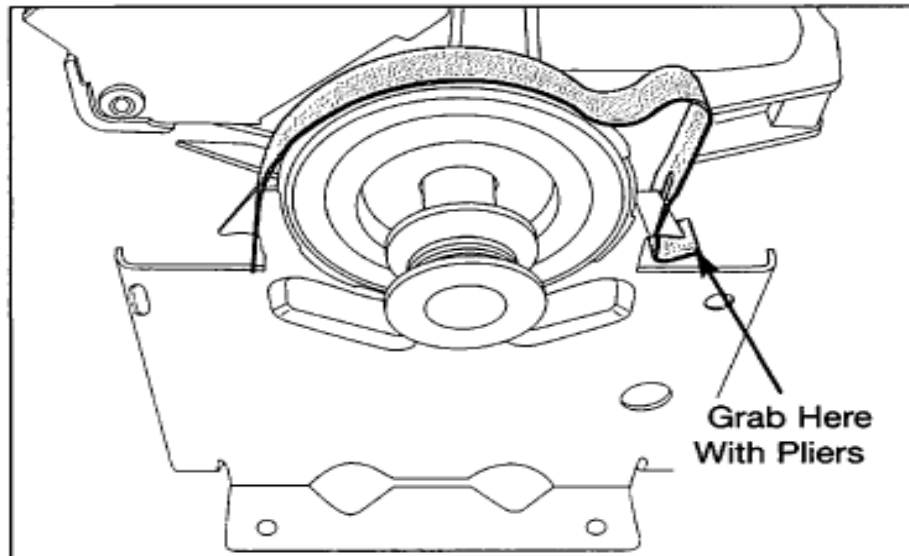

Figure 4-40.
4. Using a pliers, grab the motor clip at its outer edge, then push down and away from the motor mounting bracket until free of retaining tab. Remove motor clip from motor assembly. (See Figure 4-40)